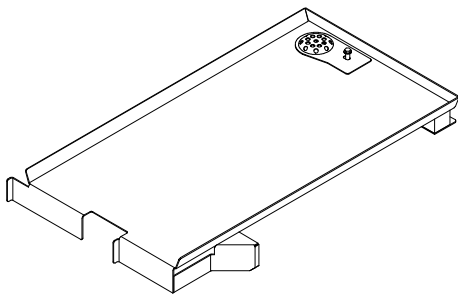

Figure 3-4
4. Make sure that the KleanShield™ drain is clear by pouring about a quart of water through the KleanShield™ drain (See Figure 3-4 and 3-5). Make sure that the water flows out the steamer drain.